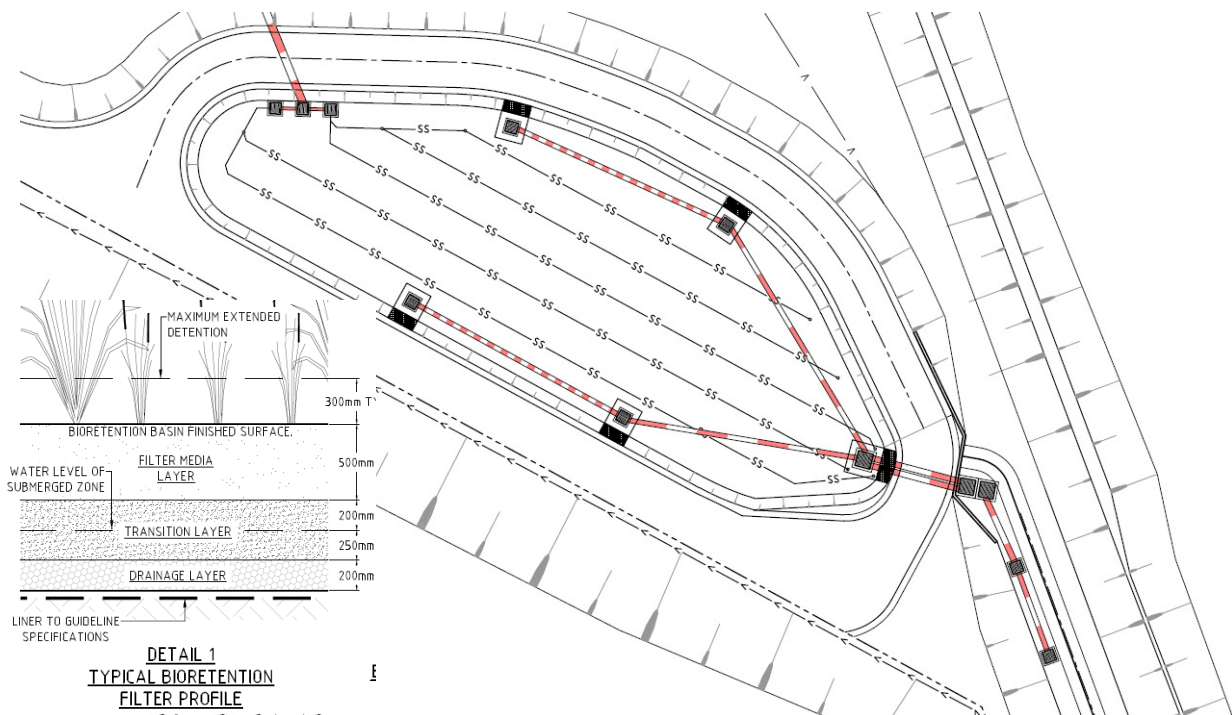

Figure 5: Design of north bio-retention filter system
- Appropriate depth of filter media, transition and drainage layers as outlined in typical bioretention filter detail in BCC's Water Sensitive Urban Design Standard Drawings (refer to figure 5). Filter media is to be tested as Measurement of Hydraulic Conductivity manual in appendix C.